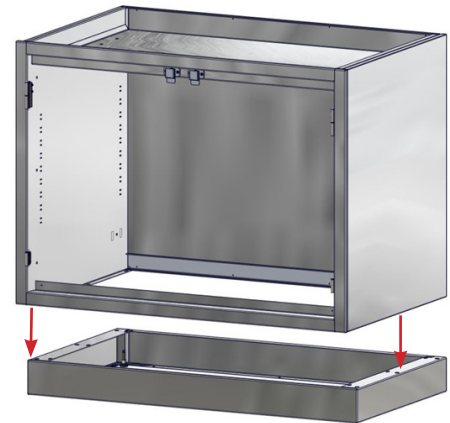

Fig. 9: Mount Cabinet to Base
5. Place the cabinet carefully on the base (Fig. 9).